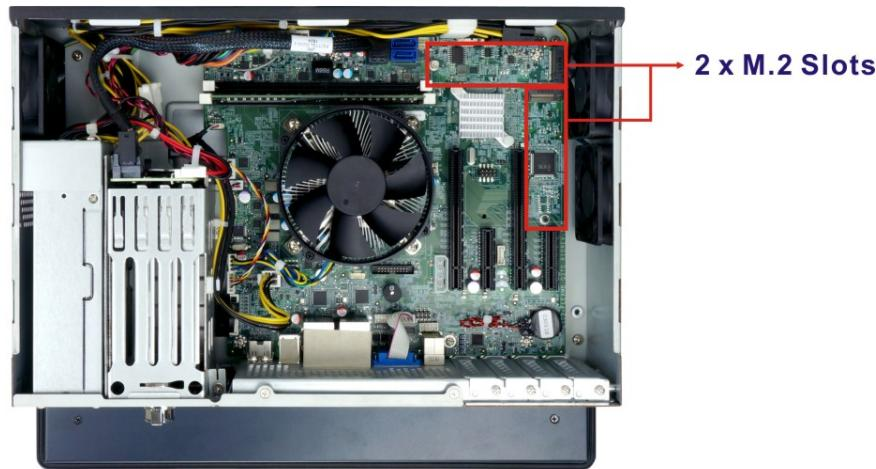

Figure 3-9: M.2 Slot Locations
Step 2: Locate the M.2 slot as shown in **Figure 3-9**.